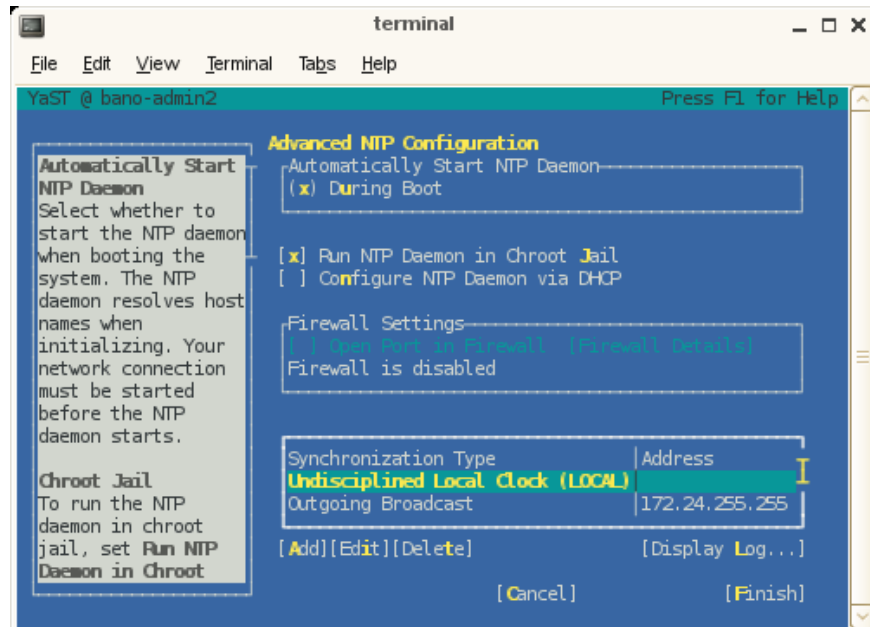

Figure 2-22 Advance NTP Configuration Screen
14. Configure NTP time service as shown in Figure 2-22 on page 61. Click **Next** to continue.